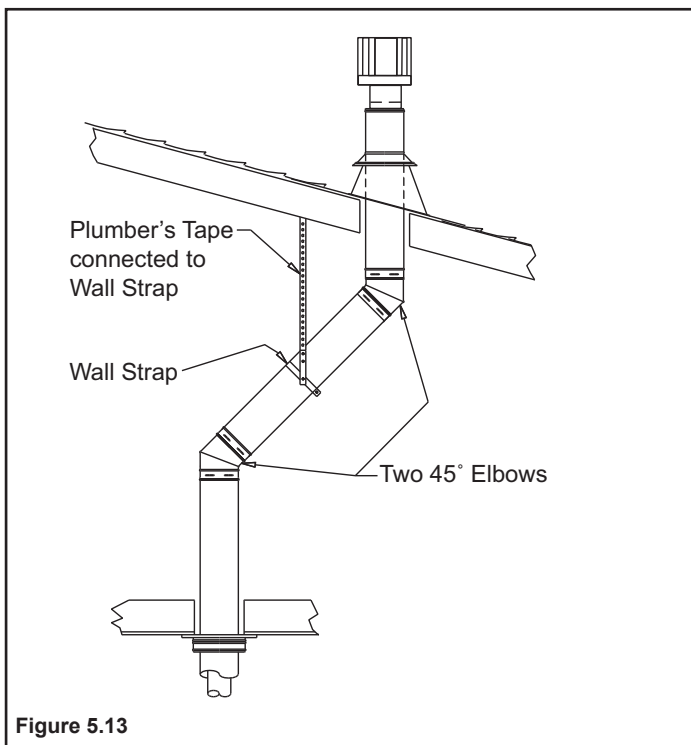

Figure 5.13
Set the gas appliance in its desired location. Drop a plumb bob down from the ceiling to the position of the appliance flue exit, and mark the location where the vent will penetrate the ceiling. Drill a small hole at this point. Next, drop a plumb bob from the roof to the hole previously drilled in the ceiling, and mark the spot where the vent will penetrate the roof. Determine if ceiling joists, roof rafters, or other framing will obstruct the venting system. You may wish to relocate the appliance, or to offset, as shown in **Figure 5.13 on page 16,** to avoid cutting loadbearing members. When location is determined, drill small hole.
- (1) If an offset is necessary in the attic to avoid obstructions, it is important to support the vent pipe every 3 ft. (914mm) to avoid excessive stress on the elbows, and possible separation. Wall straps are available for this purpose, **Figure 5.13**.
- (2) Whenever possible, use 45° elbows, instead of 90° elbows. The 45° elbow offers less restriction to the flow of flue gases and intake air.
Note: For multi-story vertical installations, a ceiling firestop is required at the second floor, and any subsequent floors, **Figure 5.17**. The opening should be framed to 10 in. x 10 in. (254mm x 254mm) inside dimensions, in the same manner as shown in **Figure 5.13 on page 16**.